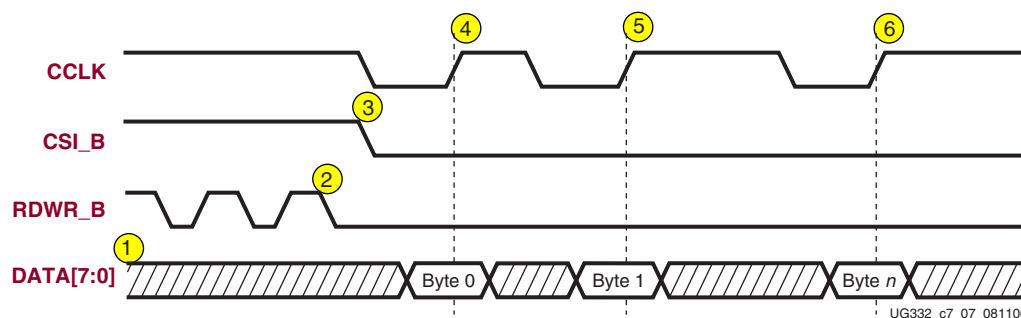

Figure 7-7: Non-Continuous SelectMAP Data Loading with Controlled CCLK
2. Pause `CCLK`, shown in Figure 7-7 and described in “Pausing `CCLK`,” page 176.
The following numbered items correspond to the markers provided in Figure 7-7.